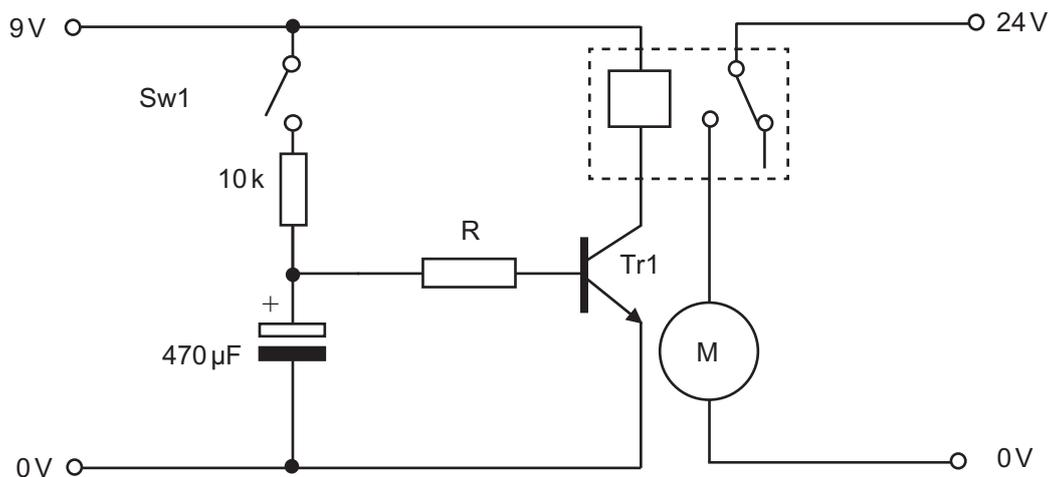

Fig. 9(b)
- (i) Calculate the minimum gain of the transistor Tr1 in **Fig. 9(b)** if the base current is 5 mA and the resistance of the relay coil is 20 ohms. [3]
- (ii) The circuit shown in **Fig. 9(b)** requires an additional component to ensure circuit protection. With the aid of a diagram show how this could be achieved labelling the additional component. [2]
- (iii) Explain the operation of the circuit shown in **Fig. 9(b)**. [3]